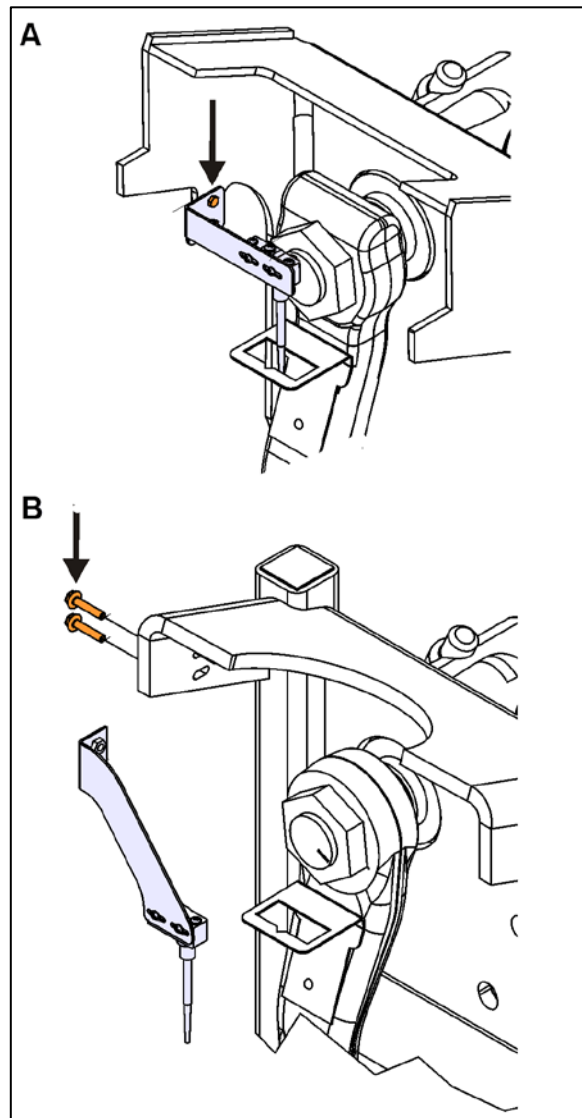

FIGURE 3
3. On the steering gear, remove the tag unload switch bracket. (Two screws) (Fig. 3)
4. You may encounter two bracket styles across the fleet (A & B Fig. 3).